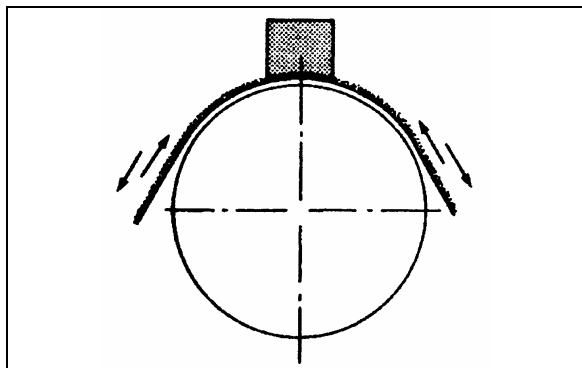
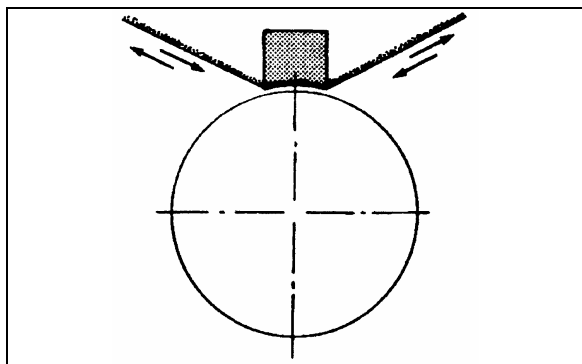

FIGURE 28: PROPER GRINDING TECHNIQUE
FIGURE 29: IMPROPER GRINDING TECHNIQUE
- a) Grinding with abrasive cloth medium grit (sandpaper) (grit 60) applied to a part of the commutator by hand. The new brushes installed in their brush holder and pressing against the cloth, one makes oscillate the rotor until complete grinding of the seating faces (Refer to Figure 28). It is necessary to avoid raising the cloth under the brushes otherwise it would result, after grinding, to reduce and badly definite surfaces (Refer to Figure 29).